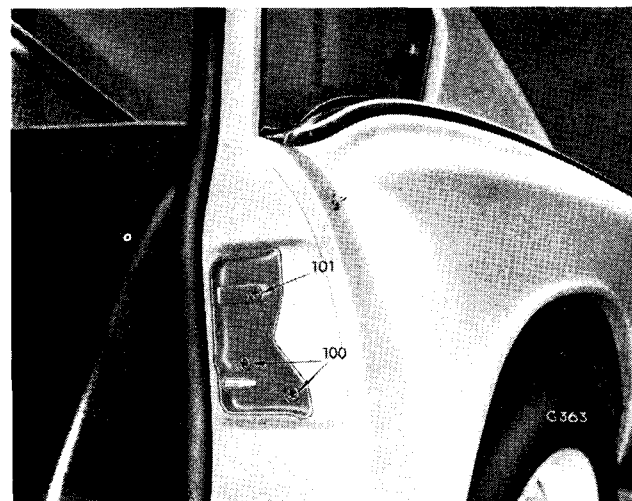

Fig. 22. Door lock striker
1. Remove three screws (100) (101) (Fig. 22).